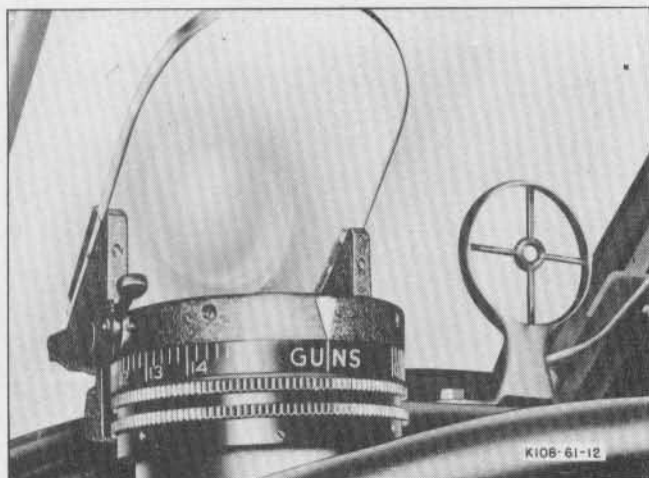

Figure 40—Gun Sight Head—Late Airplanes
(1) DESCRIPTION.—A Type N-3B or N-3C optical gun sight is located on the left side of the glare shield. On early airplanes the gun sight is equipped with a Type A-1 combination gun sight head; on later airplanes it is equipped with a Type L-1X-N head (see figures 40 and 41). An auxiliary ring-and-bead sight is also provided; the ring sight is on the shield to the right of the gun sight and the bead sight is forward of the pilot's windshield. The pilot sights and fires the following guns: